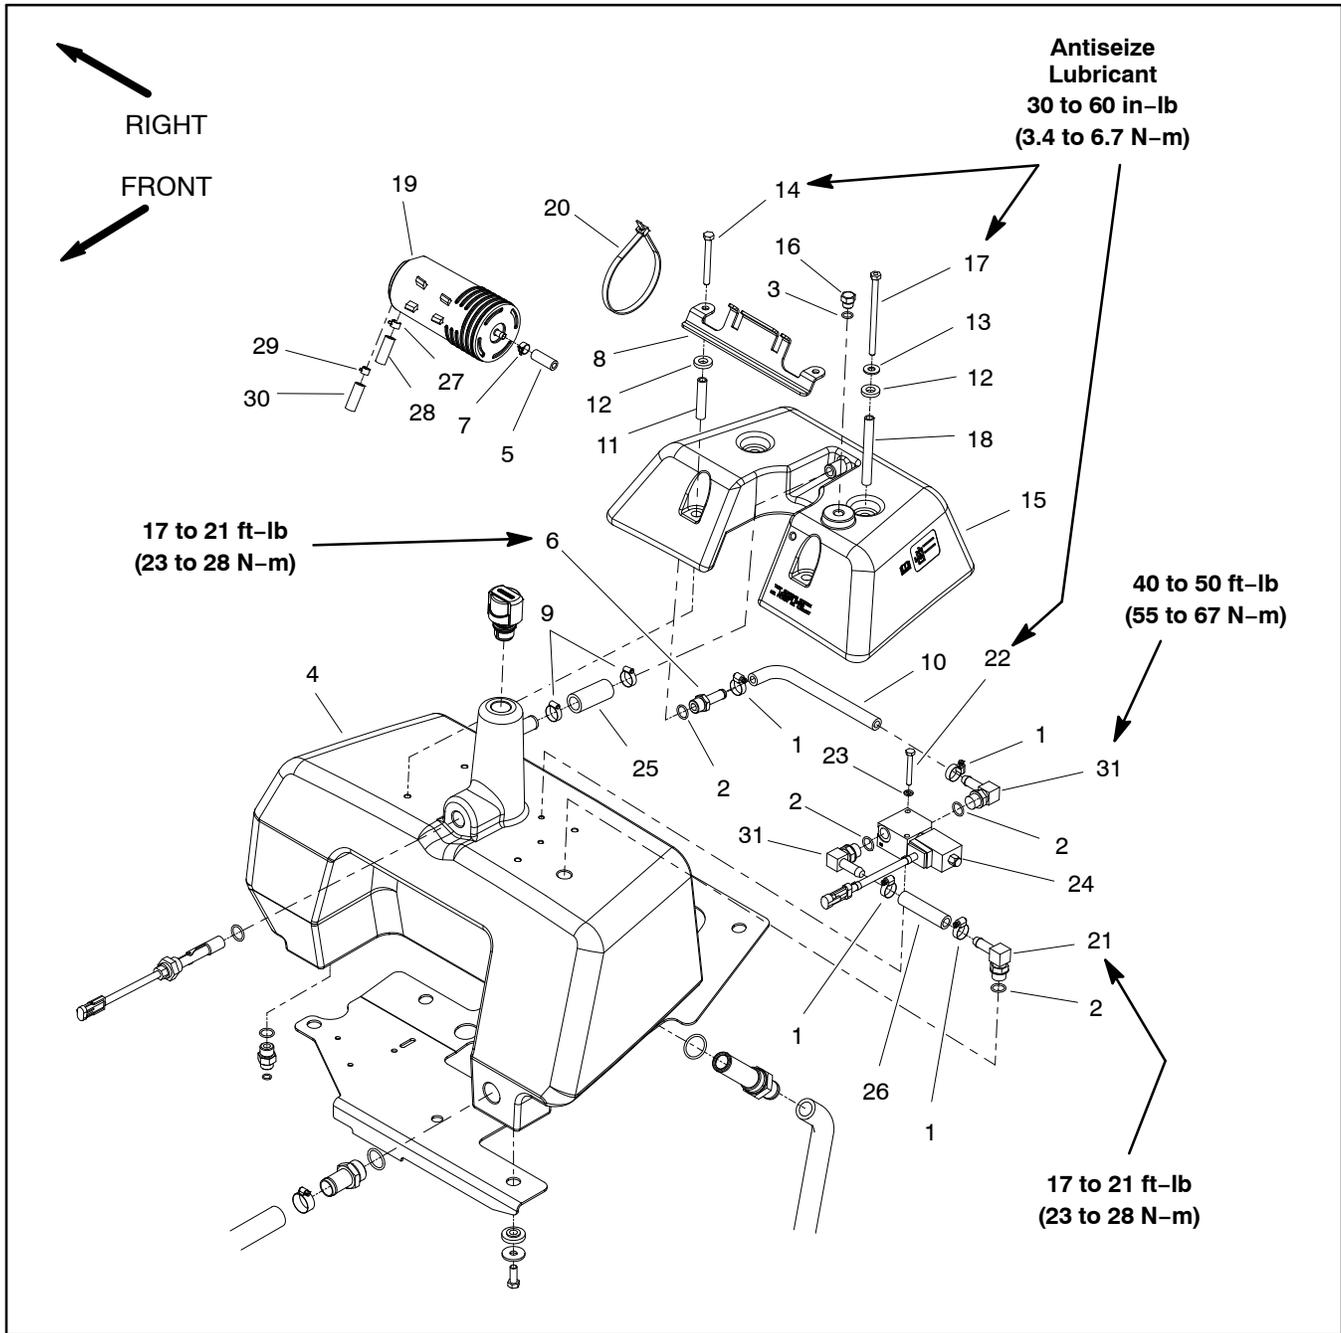
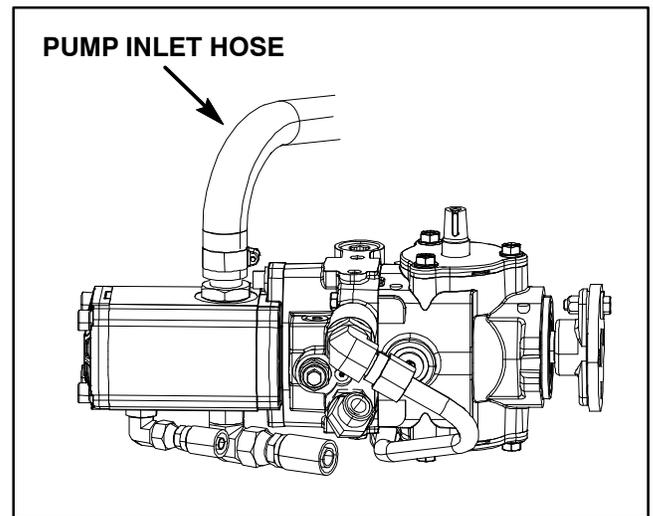

Figure 76
Figure 77
Removal (Fig. 76)
3. Clamp pump inlet hose to control drainage. Remove inlet hose from gear pump (Fig. 77). Release clamp from hose and drain about 2 gallons (7.6 liters) from the hydraulic reservoir.
6. Remove four (4) cap screws (items 14 and 17), flat washers (item 13), neoprene washers (item 12) and spacers (items 11 and 18).
8. Loosen either hose clamp (item 9) and disconnect overflow hose (item 25).
9. Lift leak detector tank slightly, loosen hose clamp (item 1) and disconnect valve hose (item 10) at barb fitting (item 31) on solenoid valve assembly. Remove leak detector tank assembly.
10. If necessary, remove solenoid valve assembly, fittings and hoses using Figure 76 as a guide.
Installation (Fig. 76)
3. If removed, install solenoid valve assembly, fittings and hoses using Figure 76 as a guide.
A. Torque fittings to values shown in Figure 76.
B. If solenoid valve manifold was removed from hydraulic reservoir, apply antiseize lubricant to threads of cap screws (item 22). Torque screws from **30 to 60 in-lb (3.4 to 6.7 N-m)**.
4. Position leak detector tank to hydraulic reservoir. Connect valve hose (item 10) to solenoid valve fitting and secure with hose clamp (item 1).
5. Connect overflow hose (item 25) and secure with hose clamp (item 9).
A. Apply antiseize lubricant to threads of cap screws (items 14 and 17) used to secure leak detector tank.
B. Install four (4) cap screws (items 14 and 17), flat washers (item 13), neoprene washers (item 12) and spacers (items 11 and 18).
9. Connect pump inlet hose to gear pump and secure with hose clamp (Fig. 77).